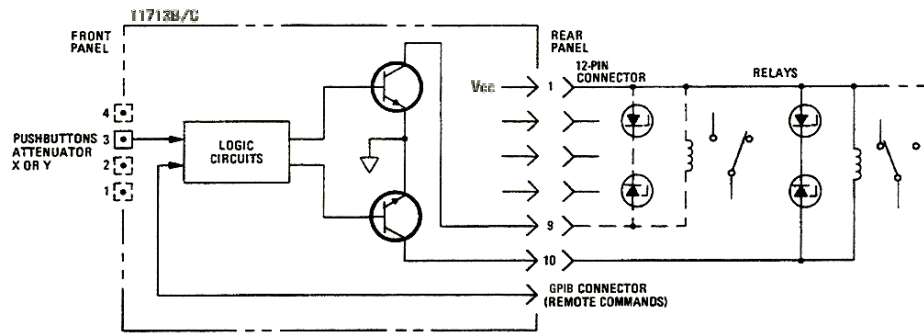

Figure 11 Typical connection for relay driving circuit
- **Figure 11** below shows the connections for a simplified relay driving circuit. The circuit is adaptable for simple non-latching relays.